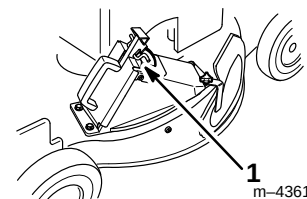

Figure 6
5. Release the door latch, allowing it to hook over tabs on the plug (Fig. 6).